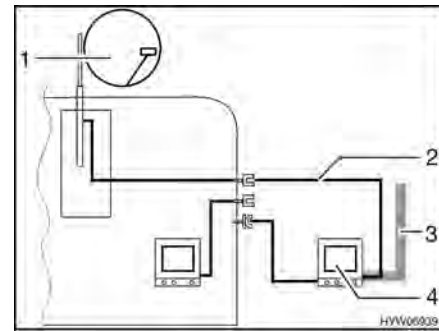

Fig. 64 TV in the awning
- TV inside the awning (Fig. 64,4): Connection to roof antenna (Fig. 64,1) with connection cable (Fig. 64,2)
- TV inside the awning (Fig. 64,4): Connection to external antenna (Fig. 64,3)